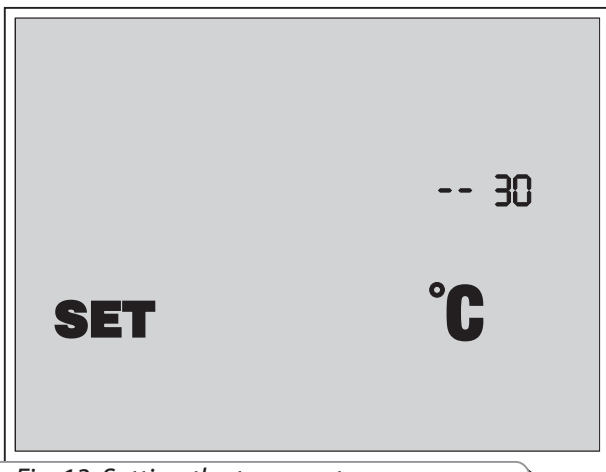

Fig. 13. Setting the temperature sensors
- While in the setup mode the wall-mounted control panel screen displays the duct temperature sensor settings (Fig. 13).